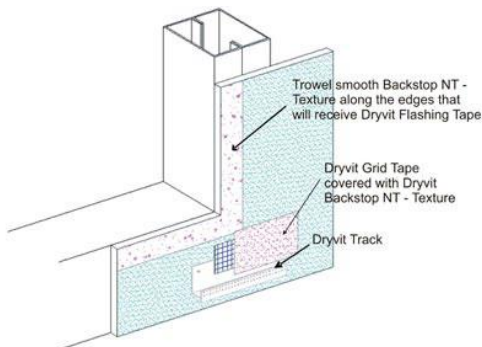

Fig. 18
- 4) While the Backstop NTX - Texture is still wet, using a trowel or spatula, smooth out the Backstop NTX - Texture around all window and door perimeters and other areas that will later receive Dryvit Flashing Tape - Figure 18.
- 4) While Backstop NTX - Texture is still wet, using a trowel or spatula, smooth out the Backstop NTX - Texture around all window and door perimeters Figure 18.